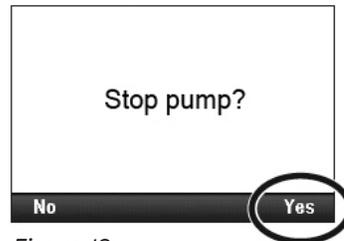

Figure 12:
2. When **Stop Pump?** appears, press the key under **Yes**. See Figure 12.